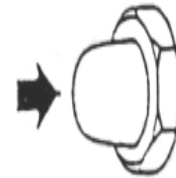

Figure 63. Emergency Stop Button
1. To stop the engine in the event of an emergency, **PUSH** the emergency stop button (Figure 63) inward. This button is located on the generator's engine operating panel, see page 32, Figure 11.